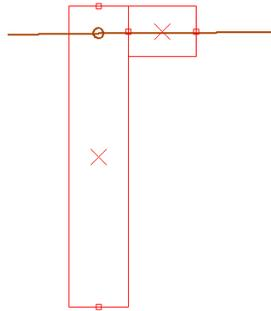

Figure 8.2-2 - Support Line with Two Support Points Over Compound Wall
- Retain the first and the last support points and delete the support points (circles) in between. Do so by using the *Remove Point* tool (). The outcome will be a view, like **Fig. 8.2-2**.